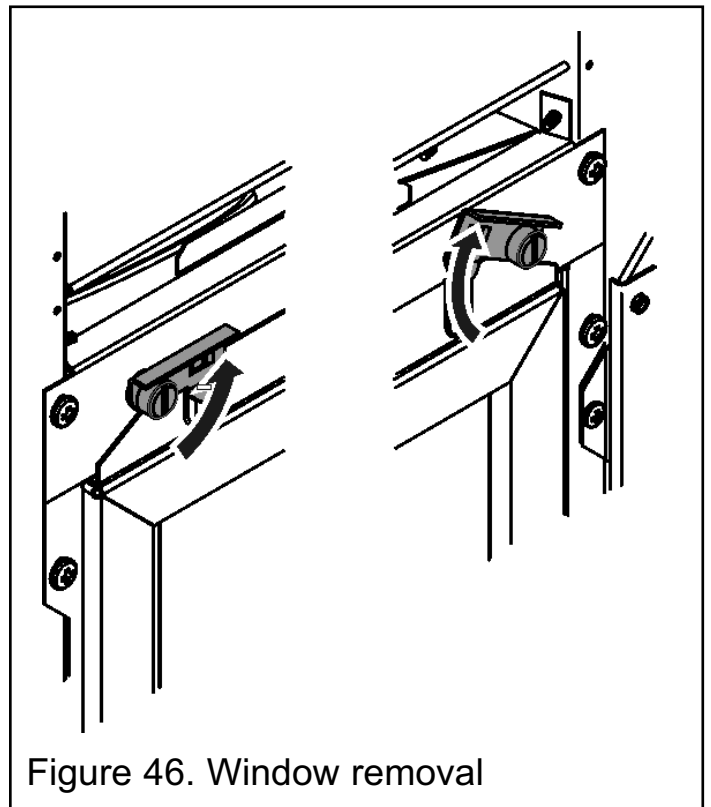
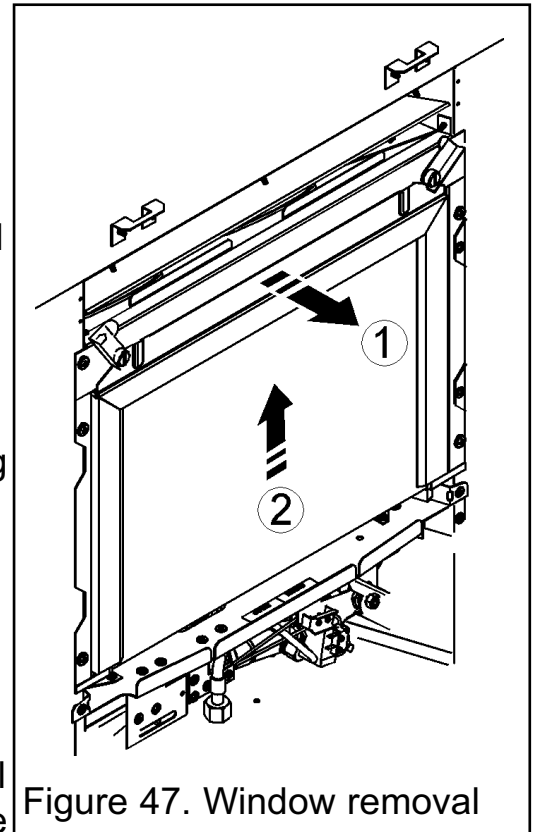

Figure 46. Window removal
Figure 47. Window removal
2. The window assembly is held in place with two brackets that rotate around a central pivot point. Push the brackets up and clear of the window assembly (See figure 46). Gently pull the top of the window forward and lift the window assembly clear of its support channels (See figure 47). Place the window assembly in a safe place away from the work area.